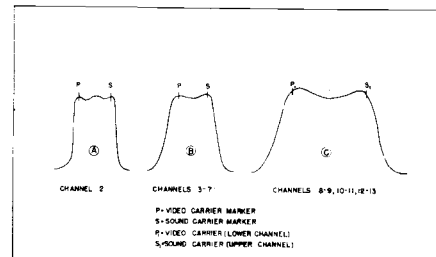

Fig. 14. R-F Alignment Curves
individual channels, as in Figure 14, and (3) for the response curve to be adjusted for maximum amplitude consistent with correct bandwidth. To provide these minimum requirements, the r-f coils are overcoupled and loaded with resistance. Tuning of the coils is affected by changing inductances of the individual coils. Except for the Channel #2 and the Channel #3 coils, the coupling is fixed by the design of the coil and switch wafers.
For Channels #2 and #3, the r-f coils should be aligned to give approximately the curve shown in Figure 14-A and 14-B. The "P" marker represents the video carrier marker, while the "S" marker is the sound marker. The frequency of these markers is indicated for each step of the alignment procedure. Adjustment of the bandwidth is made by moving the plate coil closer to the grid coil or vice-versa. On Channel #2 the sliding of the copper rings will give both the required bandwidth and the frequency adjustment. Spread or squeeze turns in plate and grid coils to change frequency. Spreading turns results in a raising of the frequency; while squeezing turns lowers the frequency.